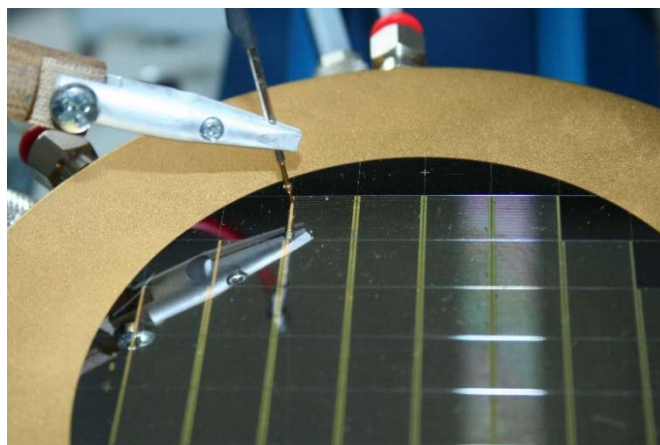

Figure 11 – Alignment of a needle on the pad of the first cell of the wafer
Position the needle by using the adjustment knobs on the needle holder turret (Figure 11).
**Warning:** make sure that the needle is placed in a well identified position with respect to both axes, because it shall be placed in the same position on the pad of the last cell of the wafer. For instance, if you place the Force1 needle on the left upper corner of the first cell pad (see Figure 11), the needle must be placed on the left upper corner on the last cell pad too.